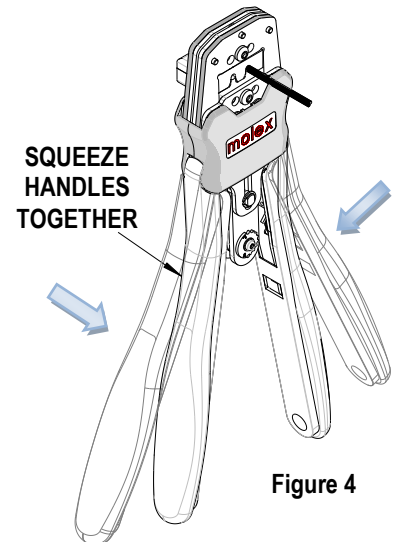

Figure 4
6. Lift up the wire stop and remove the crimped terminal from the tool. See Figure 4.